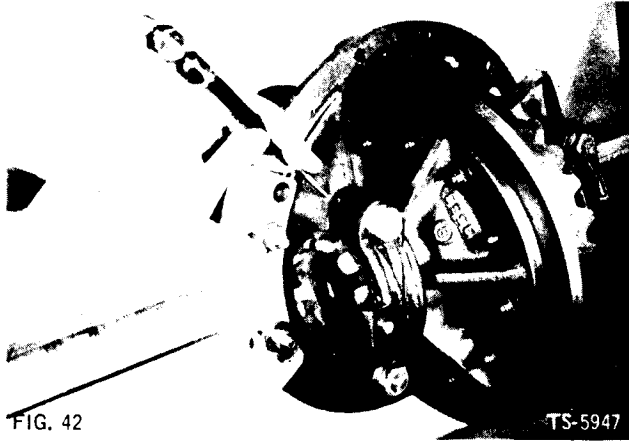

FIG. 42
4. Use center punch to mark bearing caps to differential carrier assembly to assure that parts will be installed in proper location during reassembly (Fig. 42).